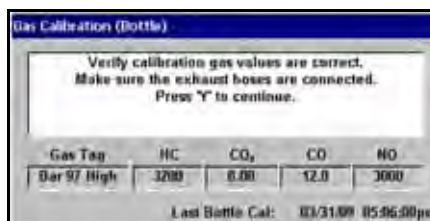

Figure 4-24 Sample Gas Calibration (Bottle) concentration confirmation dialog box
The Gas Calibration (Bottle) dialog box displays with instructions for proper calibration (Figure 4-24).
5. Verify that the displayed values, like those shown in Figure 4-24, match the values for each gas on your Gas Calibration Bottle within +/- 5%. The concentrations selected must match your bottle before continuing with a calibration.